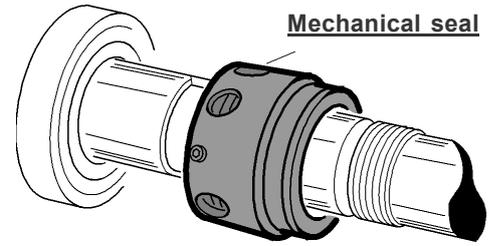

Fig.34
- **Mechanical seal** (Fig. 34).